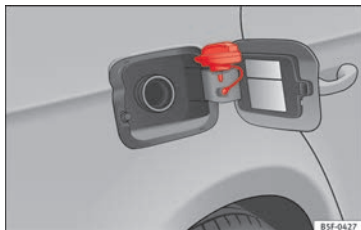

Fig. 42
- Place it in the space on the hinge of the open flap » **Fig. 42.**